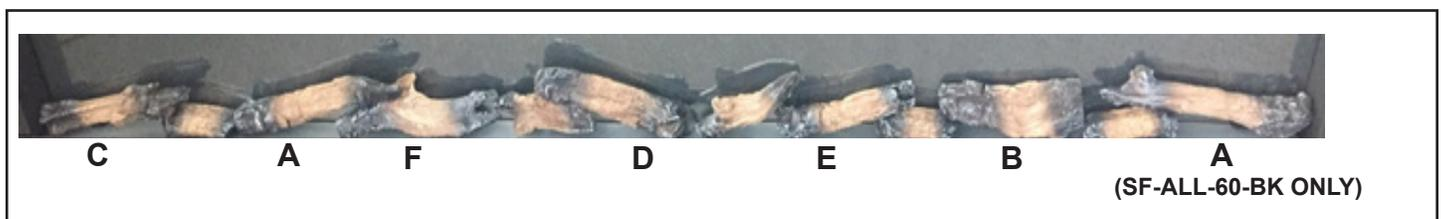

Figure 3. Place Medium Logs
- Place medium logs A (2), B (1), C (1), D (1), E (1) and F (1) on the fuel bed as show in Figure 3 & 4.